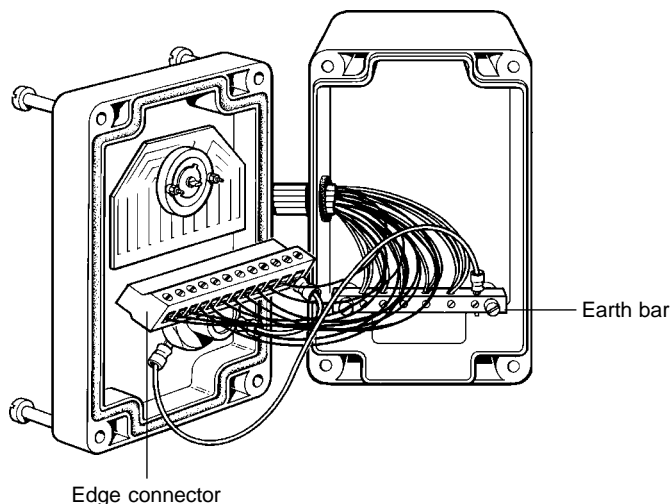

Fig. 3
5. In the case of the R12, connect the extensions from all red or green wires to the numbered terminals on the edge connector, noting the number of each sensor (refer to Figure 3). The test sheet provided can be used for this purpose. Extensions from all blue wires should be connected to the square earth bar in the base of the box.